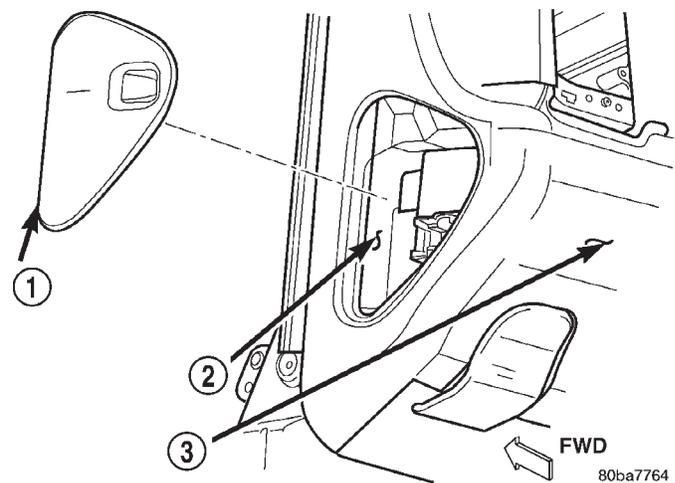

Fig. 2 Junction Block Location
An electrical Junction Block (JB) is concealed behind the left outboard end of the instrument panel cover (Fig. 2). The JB serves to simplify and centralize numerous electrical components, and to distribute electrical current to many of the accessory systems in the vehicle. It also eliminates the need for numerous splice connections and serves in place of a bulkhead connector between many of the engine compartment, instrument panel, and body wire harnesses. The JB